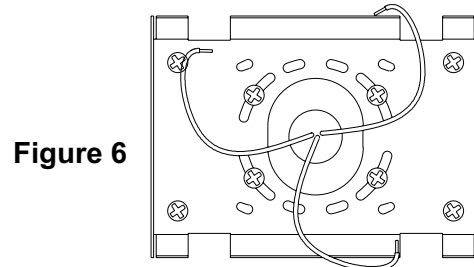

Figure 6
6. If junction box is recessed into wall (flush with wall surface), mark 4 large holes onto wall. Secure plate to wall with suitable fasteners and anchors. See Figure 6. **Warning: Do not rely on junction box screws alone to secure mounting plate to wall!** Proceed to Step 7.